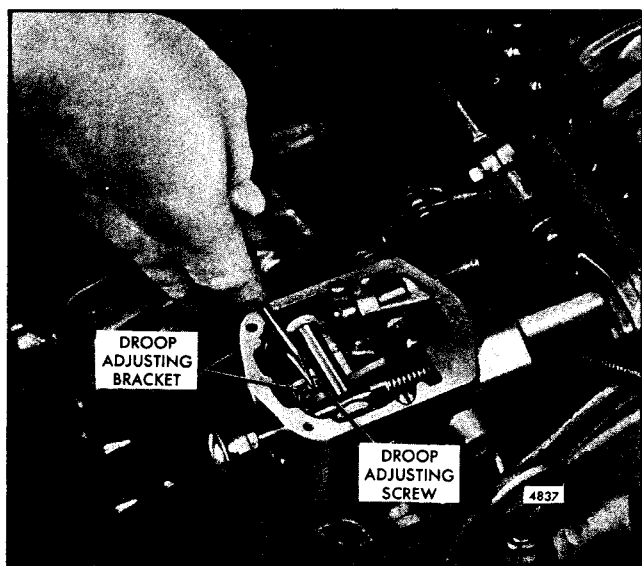

Fig. 4 - Adjusting Speed Droop
4. Refer to Fig. 4 and loosen the speed droop adjusting screw. Move the speed droop adjusting bracket so the screw is midway between the ends of the slot in the bracket. Tighten the screw.